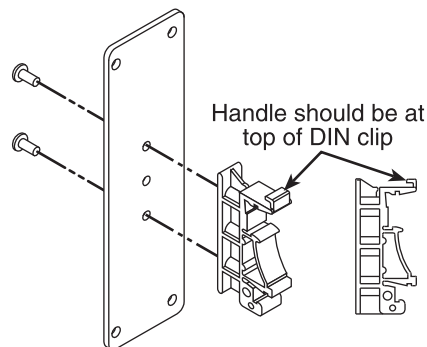

Figure 4. Installing the 35 mm DIN clip
2. Install the 35mm DIN clip onto the rear panel using the self-tapping screws (included in the installation kit package) as shown in figure 4.